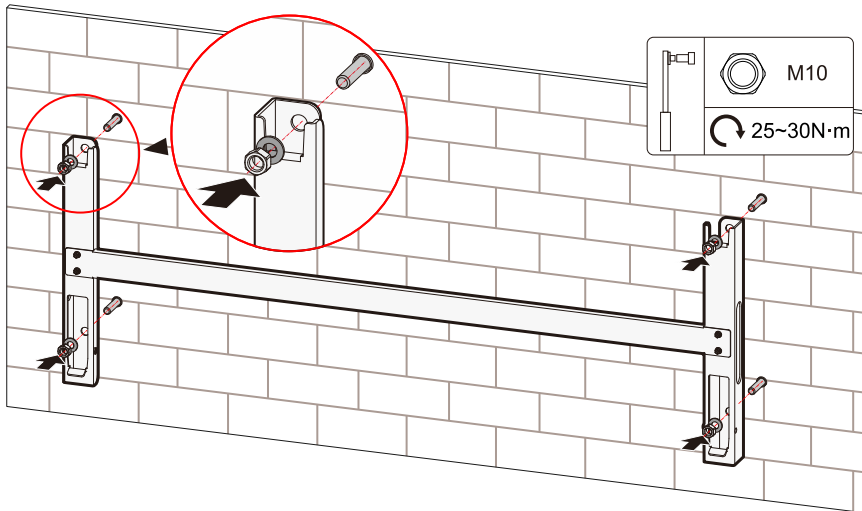

Figure3-23 Fix the installation holder
Step 5 Install the installation holder. Fix the installation holder to the expansion bolts, put on flat washers, spring washers and nuts, and then tighten the nuts clockwise through wrench, as shown in Figure3-23.